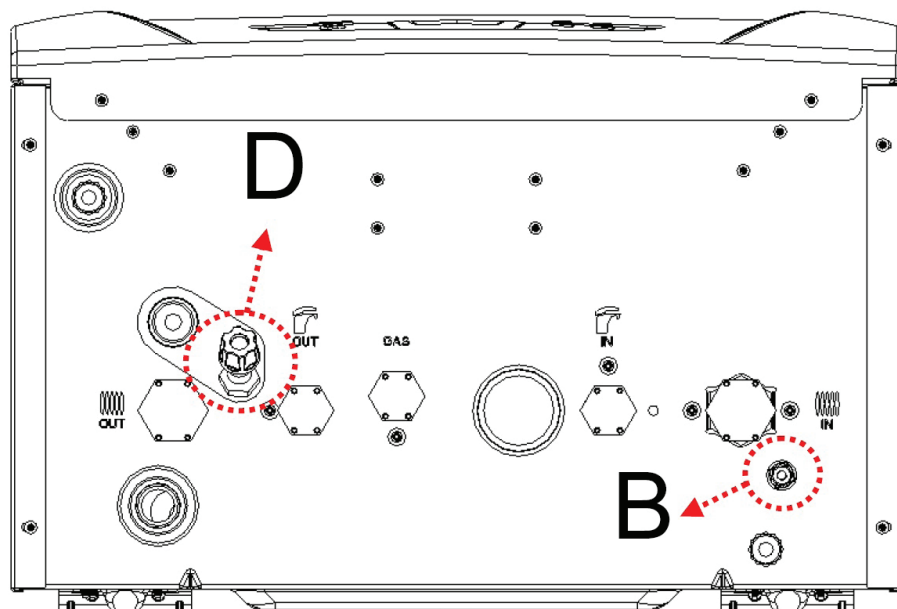

Figure 2. Bottom view of Seradens Super Plus combi boiler
Pressure sensor is included in Seradens Super Plus combi boilers. After all connections (electric, fittings and flue) are completed, system could be filled by means of filling tap (F) which is positioned at left-bottom side of the boiler (Figure 2). Before filling the system, press user info key (2) for 2 seconds and see pressure value on basic digit area. Filling operation must last until "1.2 bar" value is displayed on the screen. If the user info menu is closed before the intended value is reached (it is closed after 30 seconds), enter the user info menu again by pressing key (2) for 2 seconds in order to be sure of that sufficient amount of water is filled to the system.
If the water pressure falls down under a certain value, E04 error is seen on the screen. In order to increase the pressure value, open the filling tap (F) in Figure 2. Check the pressure value from the screen to avoid filling the system excessively. Keep filling the system until the pressure reaches 1.2 bar, then close the filling tap.
Excessive filling of the heating system leads to E47 error, this is a precaution to avoid uncontrolled discharge of excess water from 3 bar safety valve. If you see E47 error on the screen due to excess pressure, discharge the proper amount of water by means of drainage tap (D) (Figure 2) or follow the instructions given in "Water Pressure Errors" in Section 2.9.